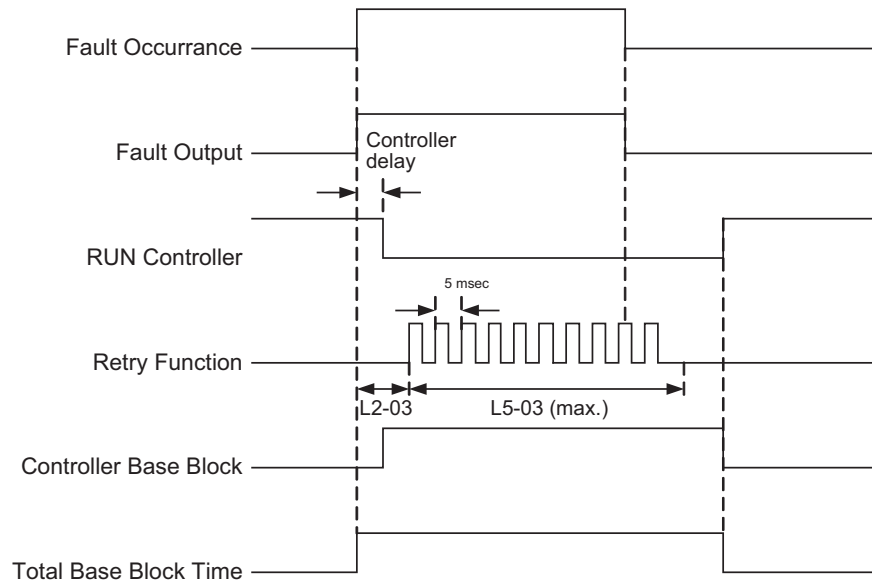

Fig 6.38 Timing Chart for Auto Restart Function
- The number of auto restarts is set in parameter L5-01. If a fault occurs the inverter performs the auto restart corresponding to Fig 6.38. The inverter tries to restart every 5 msec for the maximum time of L5-03. All retries performed during L5-03 are regarded as one restart attempt.